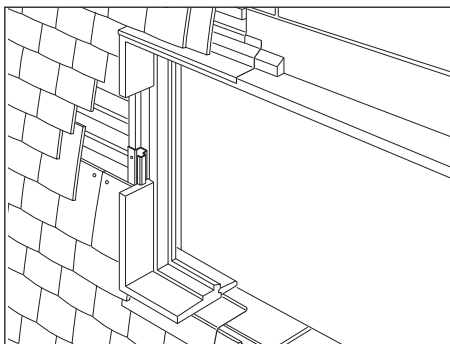

Fig. 29 – Abutment to window
- 6 When meeting timber cladding or a window jamb, turn flashing behind cladding or return into the jamb (Fig. 29).